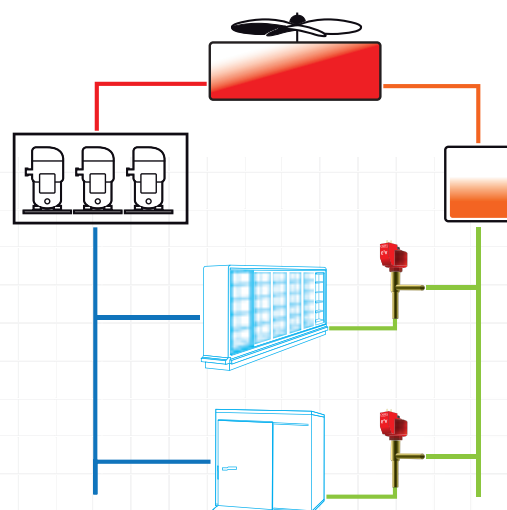

Fig. 3
- standard system with electronic expansion valves and consequent control logic (use of floating condenser control set point based on room temperature) (Fig.3);